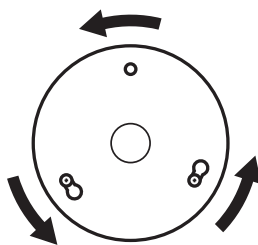

Figure 23 - Mounting the upper switch housing
4. Turn the upper switch housing counterclockwise until the housing assembly screws are firmly situated in the narrow end of the keyhole slots as shown in Figure 23. Install the one remaining #6-32 x 3/8" housing assembly screw into the third hole in the upper switch housing. Tighten all three screws firmly.